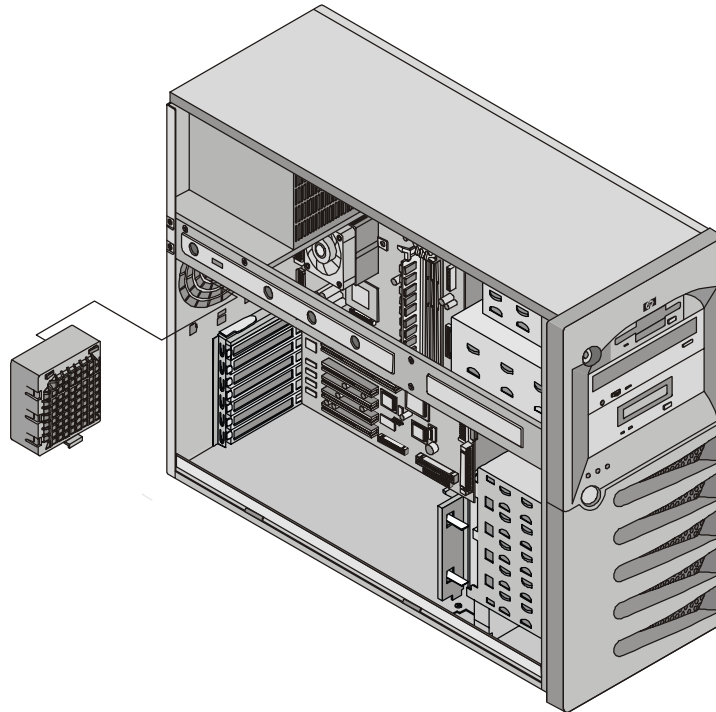

Figure 7-1. Removing the Chassis Fan
6. Unplug the connector and lift out the fan. See Figure 7-1.